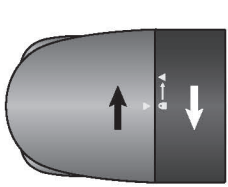
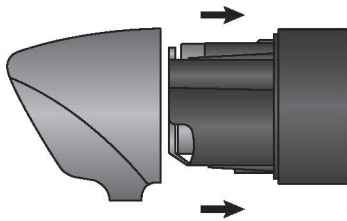

Fig. 1
Fig. 2
1. Remove front cover of Flood Light by rotating counter-clockwise as shown in Fig. 1 to reveal battery compartment (Fig. 2).